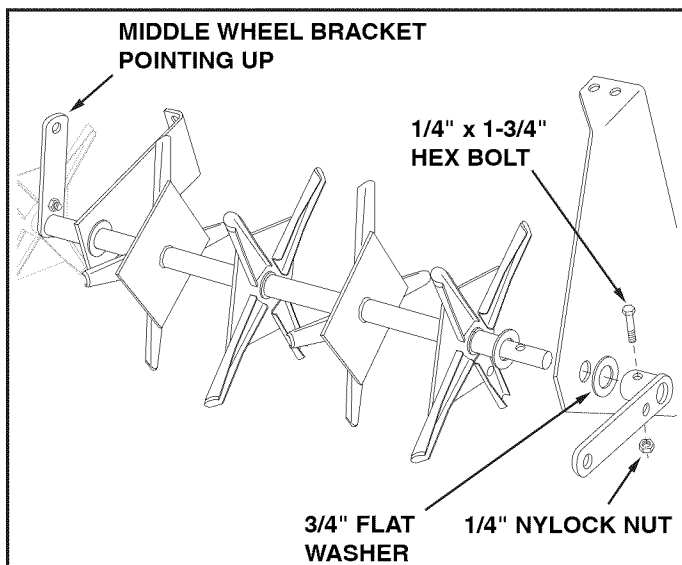

FIGURE 5
STEP 5: (SEE FIGURE 5)
- Rotate the wheel bracket fastened to the middle of the shaft so that it is pointing upward. Assemble an end plate, a 3/4" flat washer and a second wheel bracket onto the **long end** of the shaft. Point this wheel bracket as shown in figure 5. Secure it to the shaft using a 1/4" x 1-3/4" hex bolt and 1/4" nylock nut. **Tighten.** Repeat on short end of shaft.